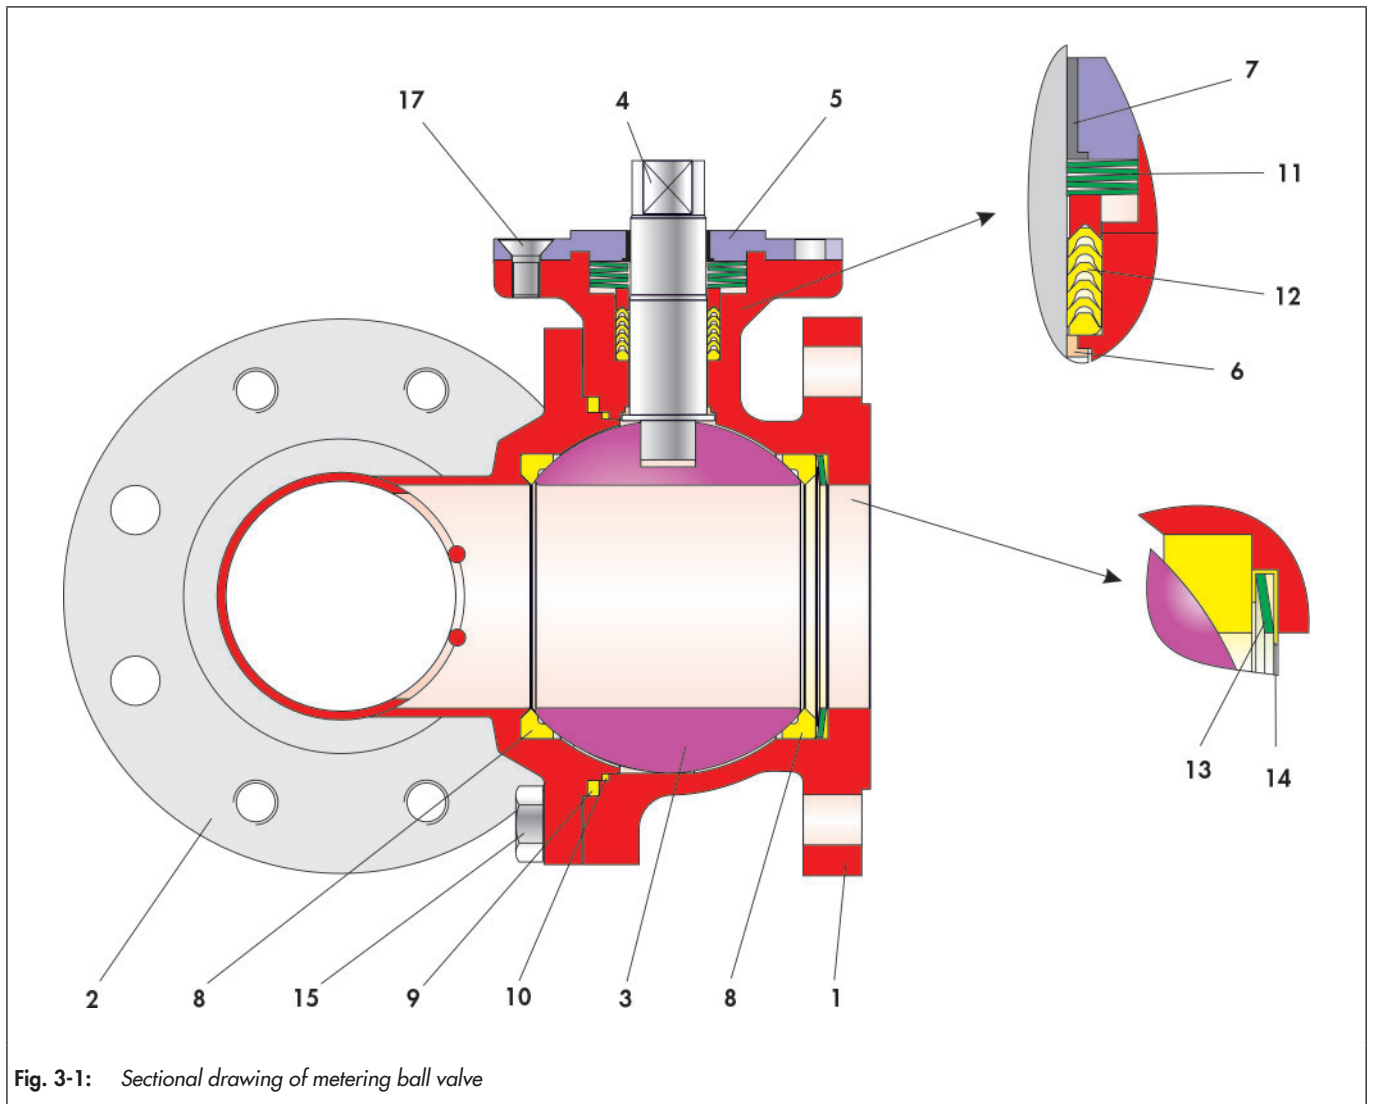

Fig. 3-1: Sectional drawing of metering ball valve
The position and arrangement of the individual parts shown in the drawing (Fig. 3-1) must be observed during assembly.
- ⇒ Turn the side body (2) until the bores of both body parts (1 and 2) are aligned with each other.
- ⇒ After applying grease to the screws (15) both parts (1 and 2) are screwed together, evenly and in alternating pattern.
- ⇒ Depending on the nominal size, stud bolts (15) with nuts (16) or screws (15) can be used.
- ⇒ With a light rotating movement, press the V-ring packing (12) over the control shaft (4) and insert in the packing chamber of the main body (1). Refer to the explosion drawing (Fig. 3-1) for positioning the V-rings.
- ⇒ Now the disc spring set (11) is placed on the V-ring packing. Also here, refer to the explosion drawing (Fig. 3-1) for positioning the disc springs.